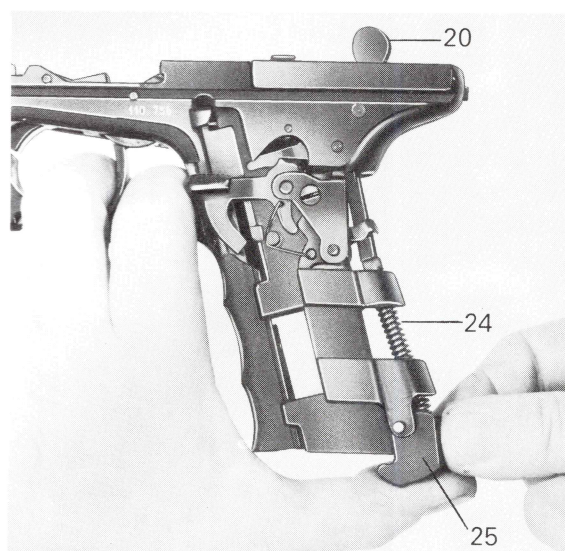

Fig. 50
- Uncock hammer (20) prior to inserting the compression spring for the shank (24).
- Place the magazine catch (25) over the end of the spring and push upwards (Fig. 50).